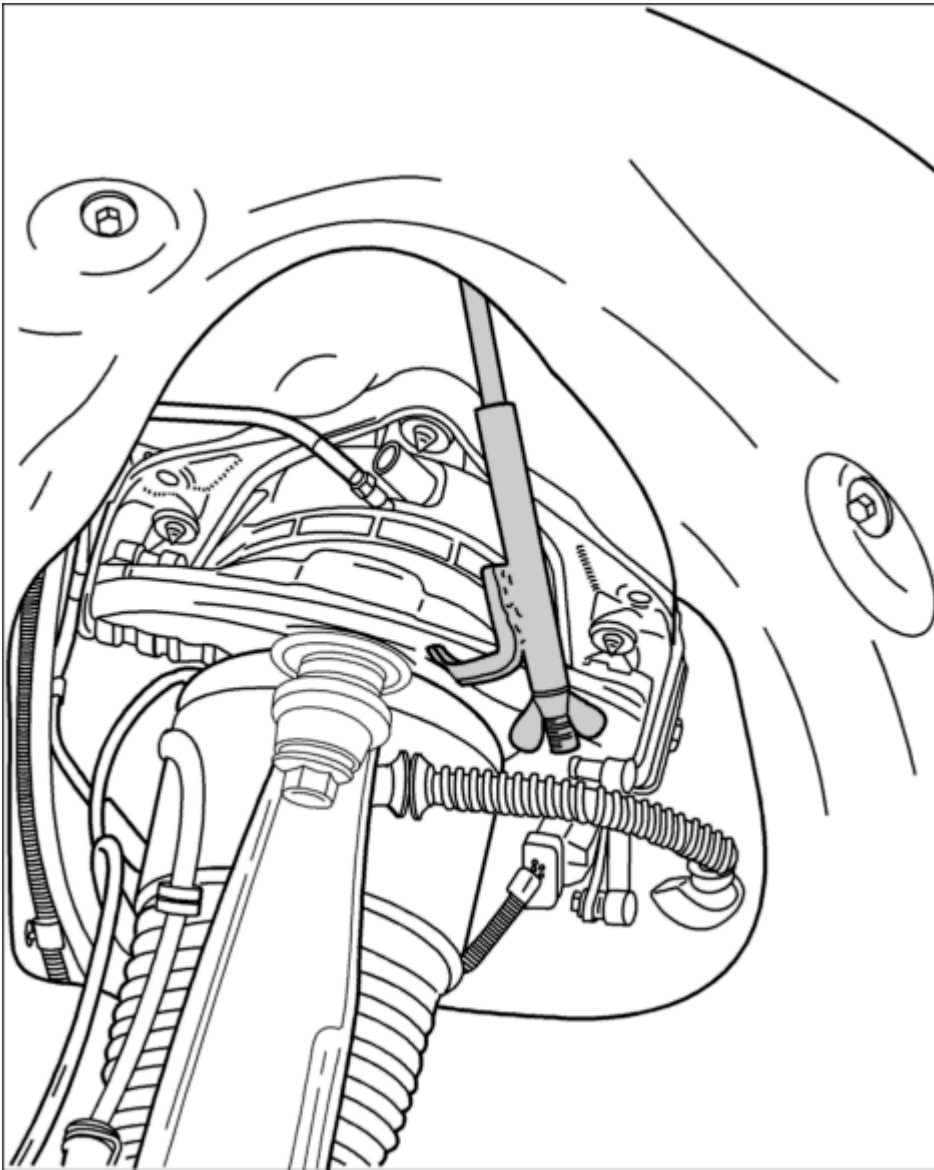

Fig. 87: Affix upper trailing arm using spring compressor VW 552
7. Fix upper trailing arm using **spring compressor VW 552**. This involves tensioning the trailing arm slightly because otherwise the top ball joint can be damaged. Insert the spring compressor into the top opening of the wheel housing (double panel under the wheel housing cover) and attach it to the trailing arm. This is only necessary if the same control arm is reinstalled. See **Fig. 87**.